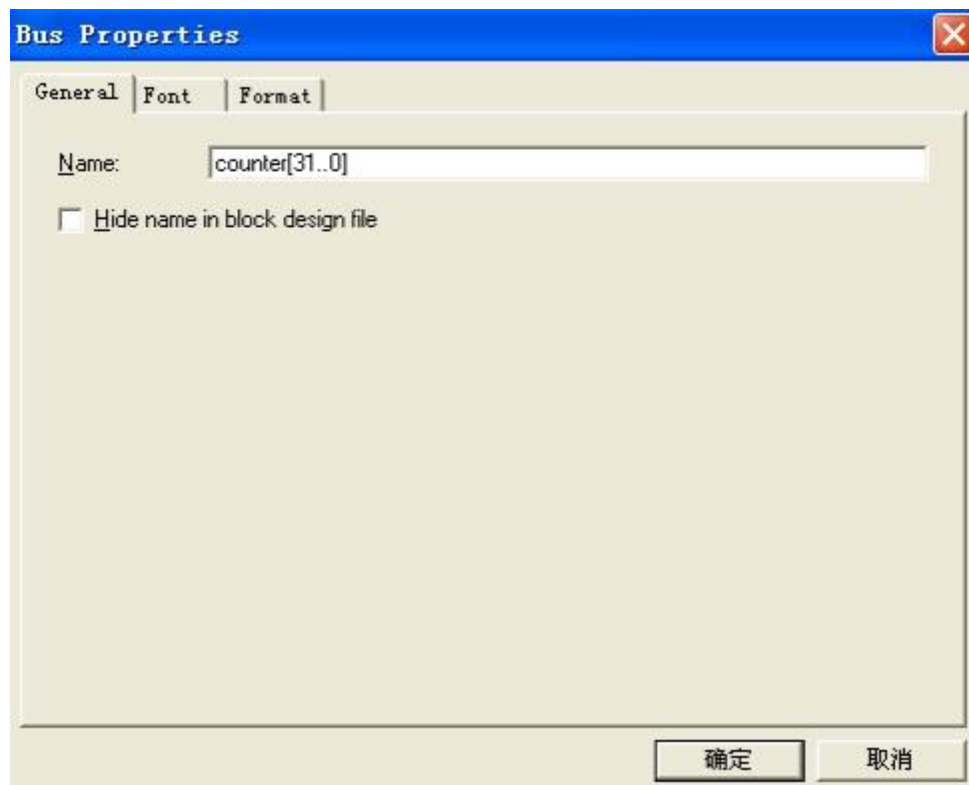

Figure 3-20 Change the output BUS name
- j. Type counter [31..0] as the bus name (see **Figure 3-20**). The notation [X..Y] is the Quartus II method for specifying the bus width in BDF schematics, where X is the most significant bit (MSB) and Y is the least significant bit (LSB).